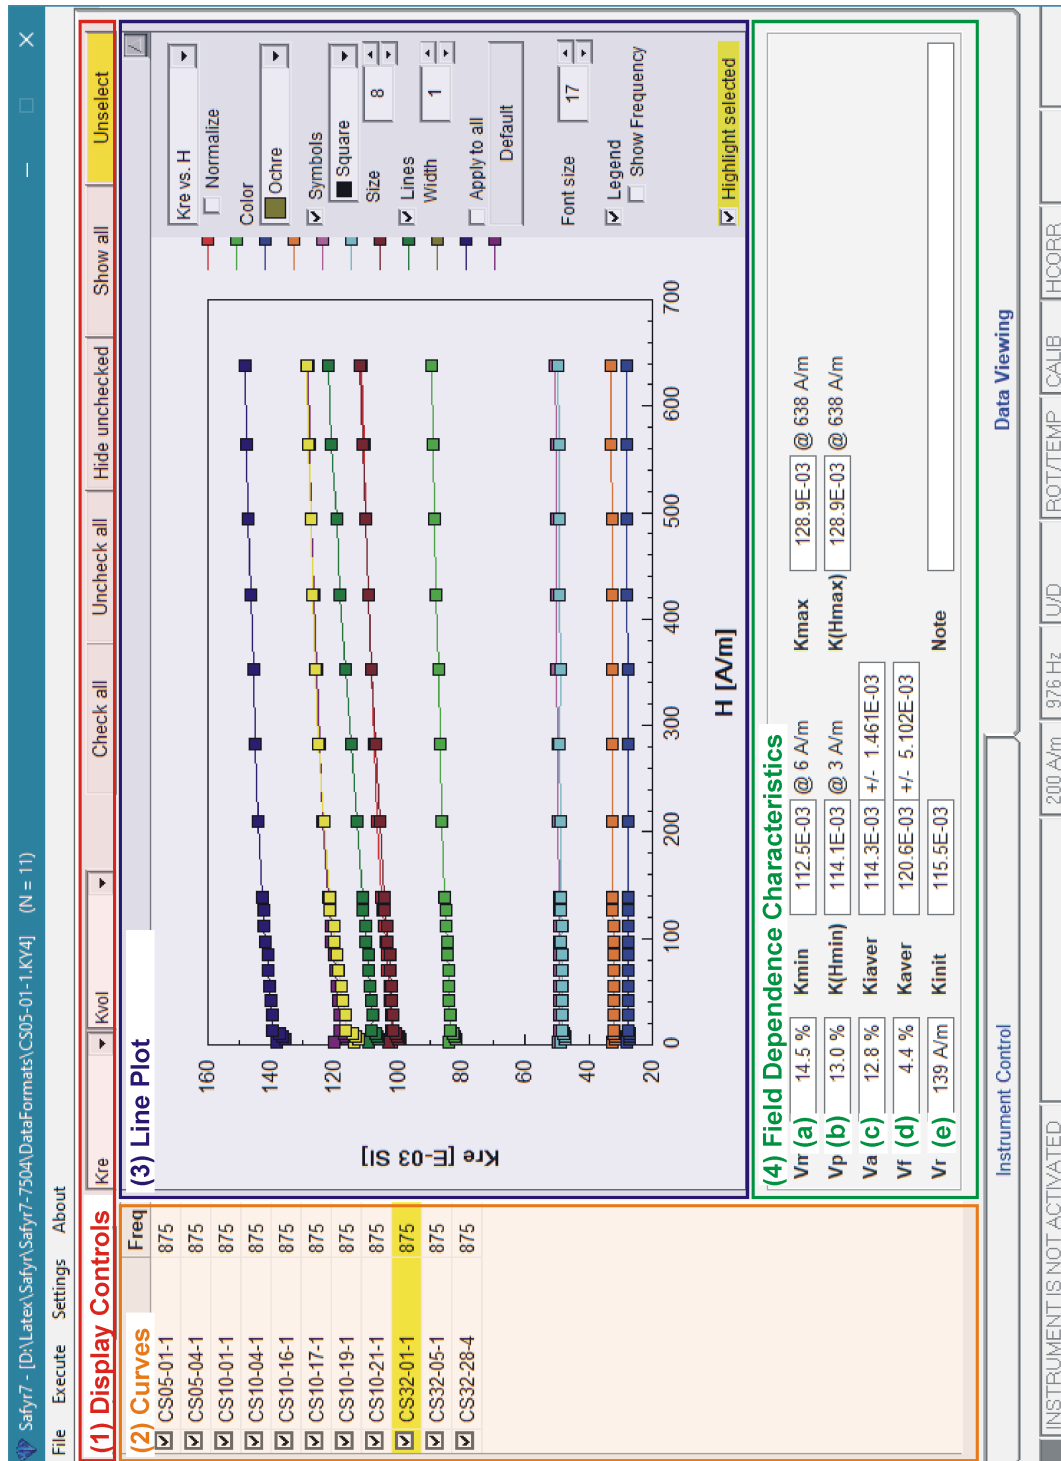
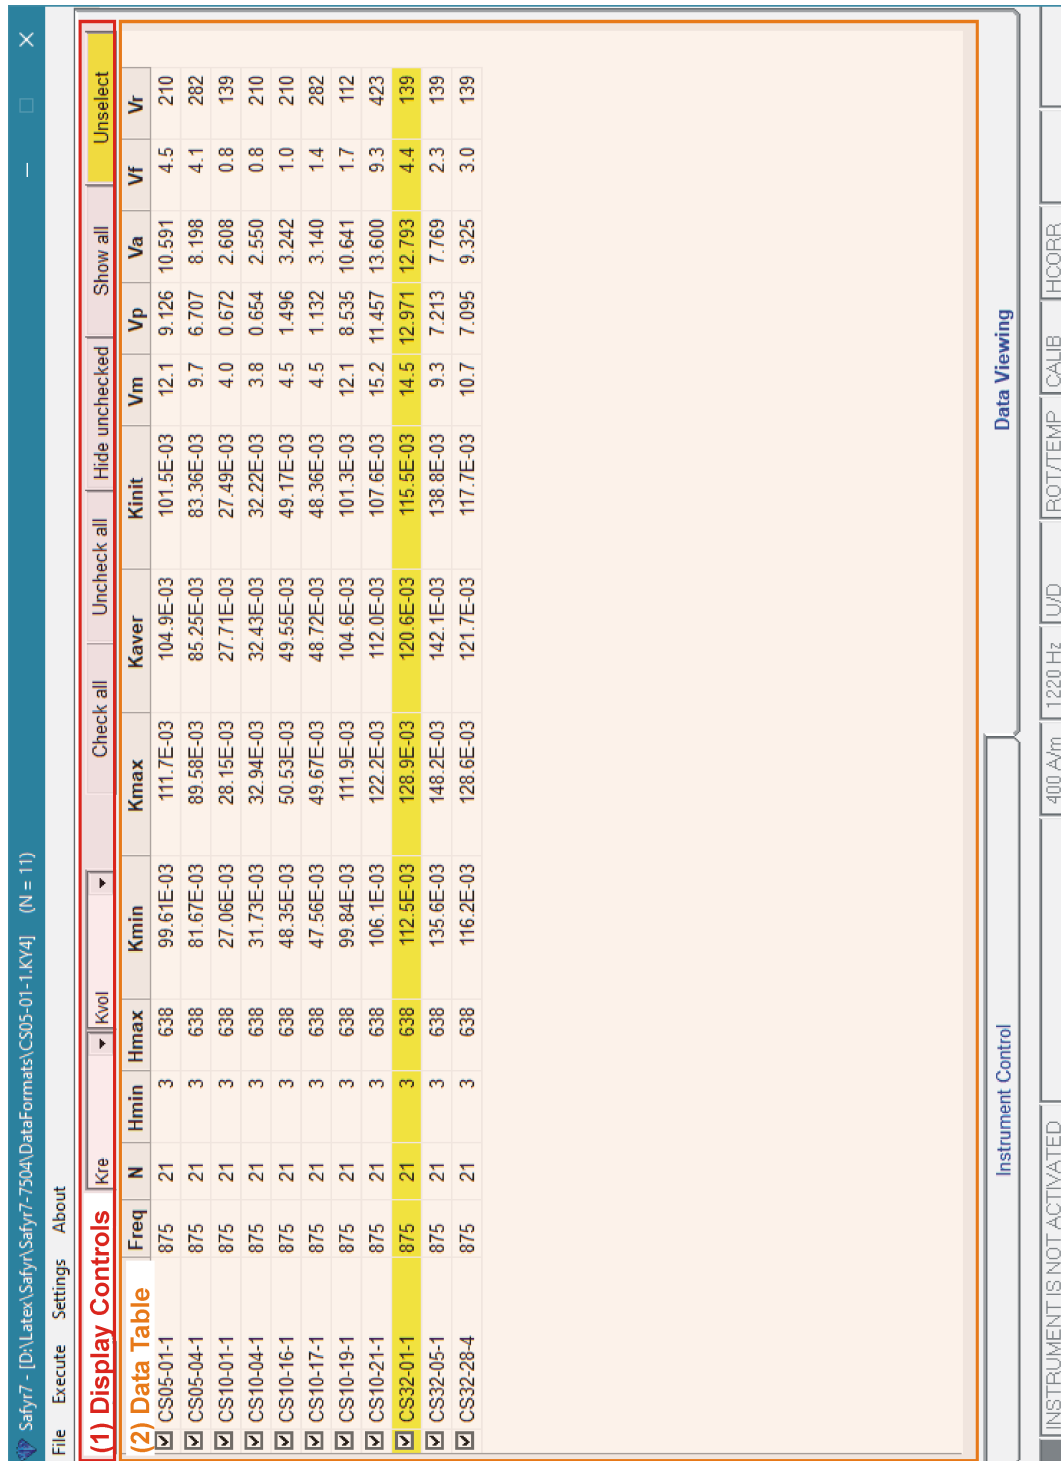

Figure 33: Data Viewing tab-panel displaying multiple curves of field dependence of magnetic susceptibility; color-coded frames highlight its main parts.
Figure 34: Data Viewing tab-panel displaying a table of field-dependence factors of multiple curves; color-coded frames highlight its main parts.
In the field dependence mode, the **Data Viewing** tab-panel offers instant visualization and basic processing of field dependence curves of magnetic susceptibility. Here, the individual field dependence curves are extracted from the current data file (*.bulk) and listed in the **Curves** list (Figure 33). Each curve sequence is identified by the increasing (non-zero) value of the *Sequence Index* (see Section 7.4.3); sequence index = 1 indicates the first data record of each curve sequence.
The user interface contains the following parts (Figure 33):
- (a) **Graphics** **Table** **option buttons** – Switch between graphical and tabular view of field dependence data (see Figures 33 and 34, respectively).
2. **Curves** – Displays the list of field dependence curves. Here, one can check/uncheck which curves are displayed in the **(3) Line Plot**.
- **Curves** list may be expanded into **Data Table** (Figure 34) when Table option button is pressed. This table displays the names of field dependence curves together with the field dependence parameters and characteristics (Table 7).
- To select a curve, click on corresponding row. The selected curve is highlighted in yellow in **(2) Curves** list, **(3) Line Plot**, and its characteristics are displayed in **(4) Field Dependence Characteristics** frame.
3. **Line Plot** – Graphically displays the field variations of the curve(s) which are checked in the **Curves** list. Click on  to expand the Properties tool-box (Figure 33). Here one can control: